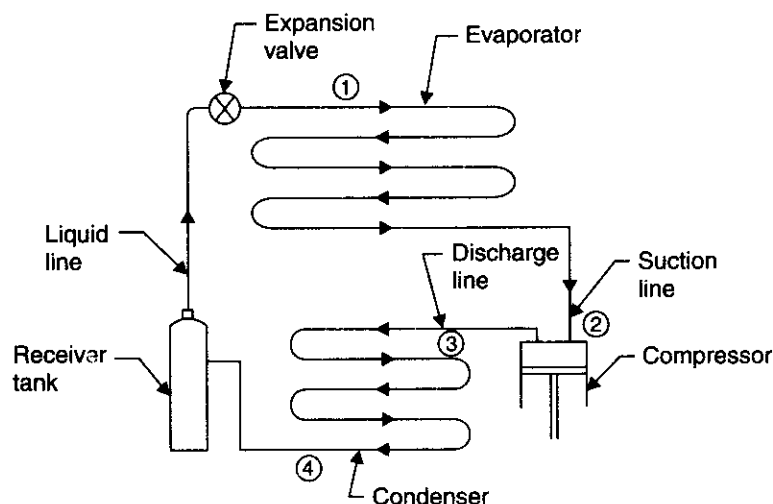
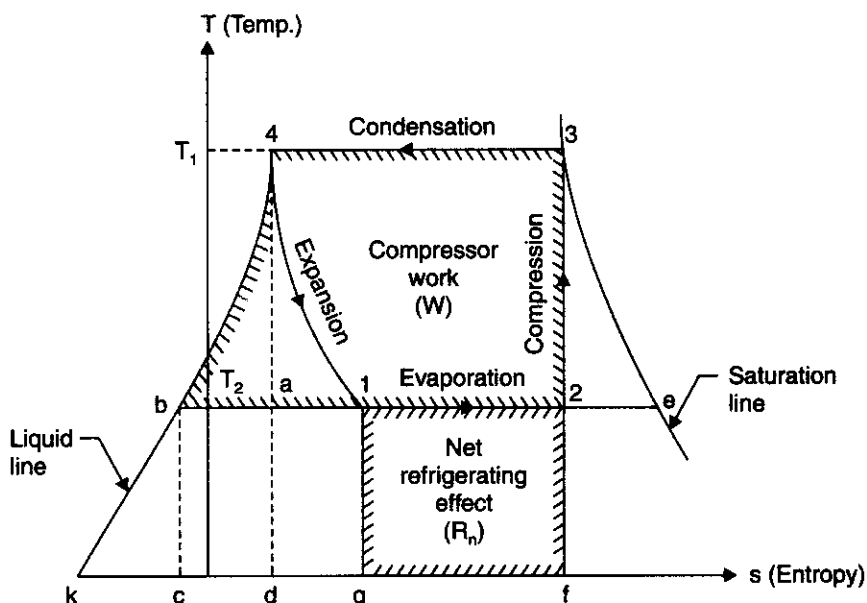
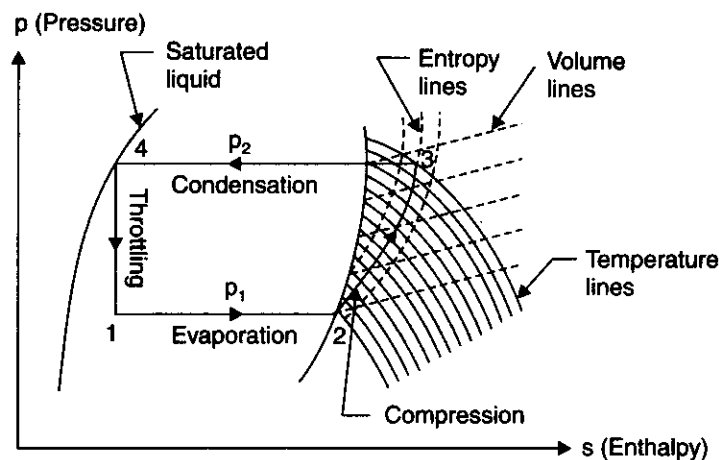

Fig. 14.9. Vapour compression system.
Fig. 14.10. T-s diagram.
Fig. 14.14. Simple vapour compression cycle on p-h chart.
The flow diagram of such a cycle is shown in Fig. 14.9.
Here follows the brief description of various parts of a simple vapour compression system shown in Fig. 14.9.
1. When the vapour is dry and saturated at the end of compression. Fig. 14.10 represents the vapour compression cycle, on T-s diagram the points 1, 2, 3 and 4 correspond to the state points 1, 2, 3 and 4 in Fig. 14.9.
Fig. 14.14 shows a simple vapour compression cycle on a p-h chart. The points 1, 2, 3 and 4 correspond to the points marked in Fig. 14.9.